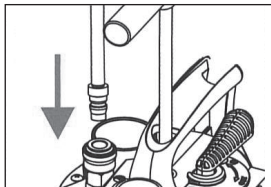

Figure 5
4. Put the main suction probe into the extractor (Figure 5).